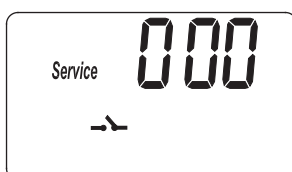
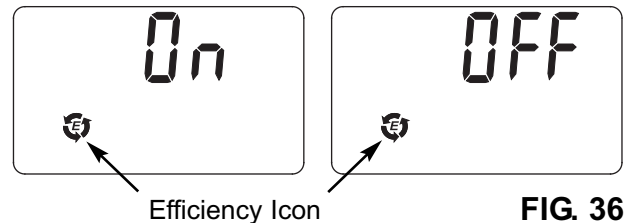

FIG. 35
FIG. 36
1. Press and hold the PROGRAM button until the screen in Figure 35 is displayed. Once in this display, press the PROGRAM button once and one of the two displays in Figure 36 is shown.